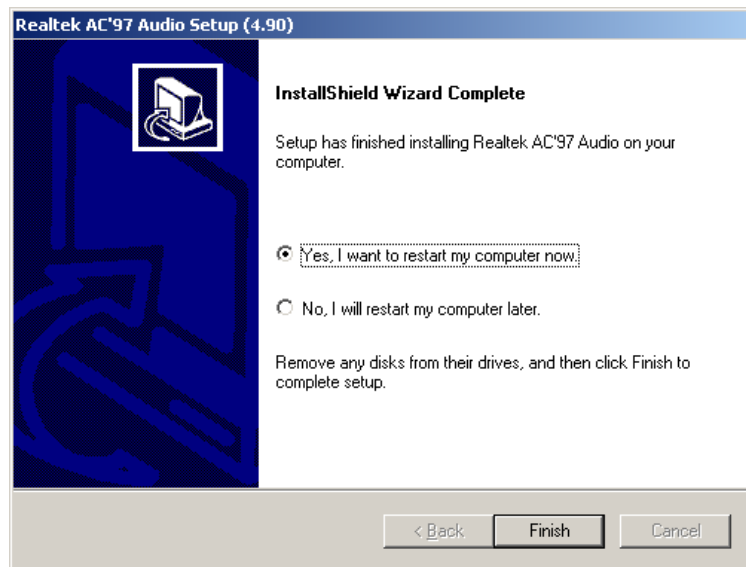

Figure 7-30: Restart the Computer
Step 11: After the driver installation process is complete, a confirmation screen appears (**Figure 7-30**).